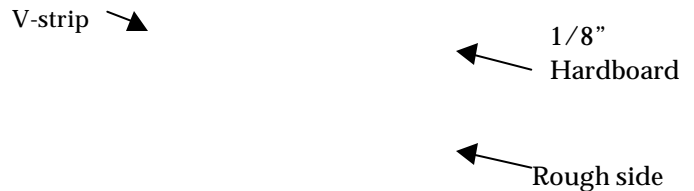

Figure 4:
5. Glue narrow strip to wide strip as shown (Figure 4) using yellow wood glue and C-clamps. Note that the rough side of the wide strip faces out. Clean off excess glue. Let dry.